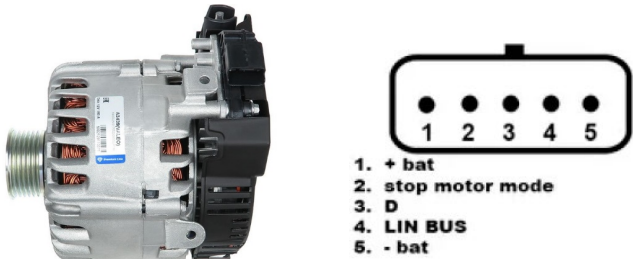

Figure 25. Valeo IST60C017: marking of terminal pins
2. Connect the tester to the vehicle alternator according to the cable color markings (see Section 1) and Appendix 1. Connect **I-StARS** type alternators following the example described below (see Fig. 25 and Table 5).
A connection diagram for Valeo IST60C017 is shown as an example in Fig.25 and Table 5.